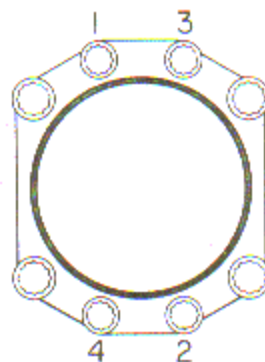

Figure 6-22. Sequence of Tightening 3/8-Inch Cylinder Base Nuts
a. Tighten all 3/8-inch cylinder base nuts to 200 inch-pounds torque. The order of cylinder is immaterial, but the nuts on each individual cylinder should be tightened in the sequence shown in figure 6-22.